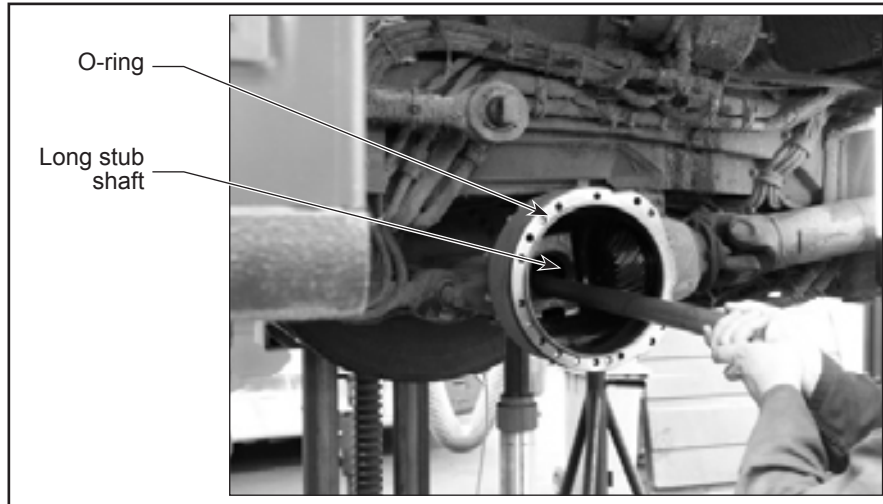

Figure 9 - Axle Housing
2.27. Pull the long stub shaft out of the axle housing, and remove the O-ring. See Figure 9.
- 2.51. Insert the long stub shaft into the axle housing. See Figure 9.